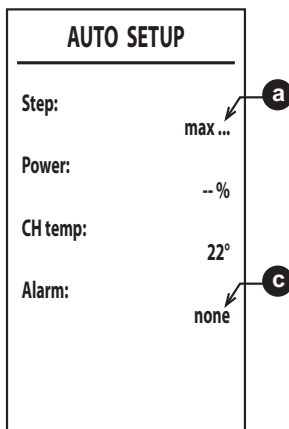

fig. 39
6. After ignition, the burner goes to heating at the various powers (max, med, min) indicated by point **a** (fig. 39).
8. If the ignition sequence described in point "6" is not successful, the message **max_err** at point **a** and an error code at point **c** will appear (fig. 39).